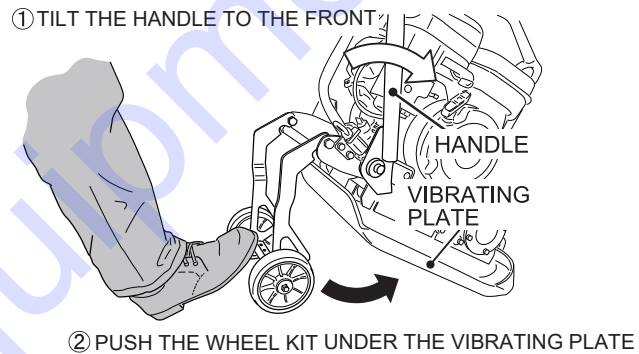

Figure 11. Operating Position
4. Tilt the handle to the front until the rear end of vibrating plate is off the ground. Then, push the wheel kit to the underside of vibrating plate until the frame of wheel kit touches the vibrating plate (Figure 11).